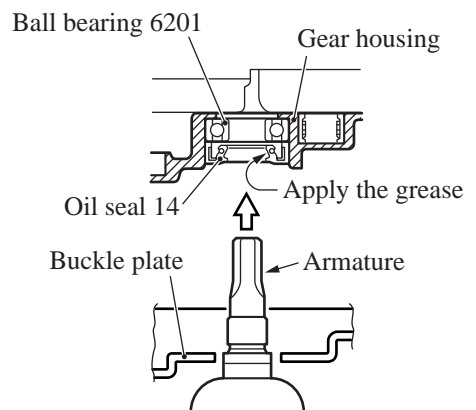

Figure 9
- k. To assemble the armature, place Ball bearing 6201 and the Oil seal 14 into Gear housing, then push Armature into place. (See the figure 9.)